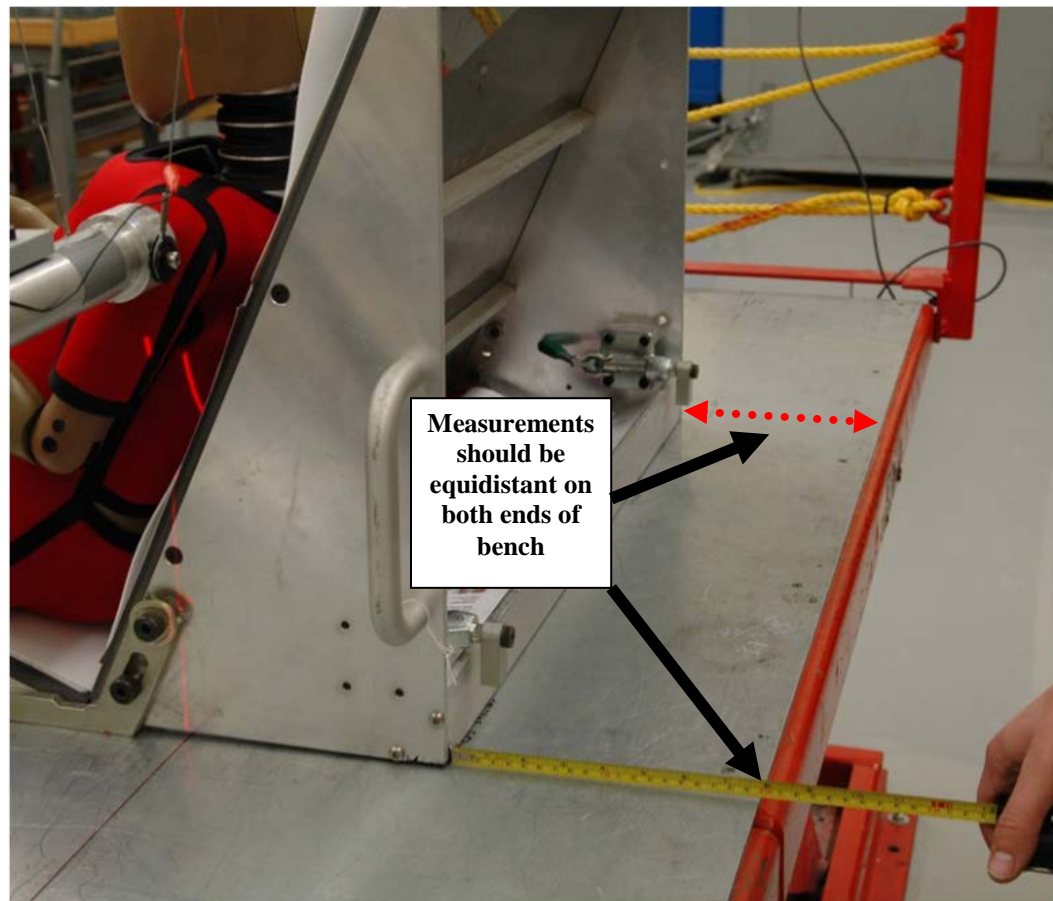

Figure 73. Checking that the bench is square
- Square the bench by measuring the distance of a reference edge along the back of the bench which is parallel to the line of impact, such as the edge of the table (Figure 73). Perform this measurement at both ends of the bench. Slightly adjust bench until it is parallel to the line of impact so that both measurements are equidistant (± 1 mm) to the reference, taking care to maintain the shoulder positioning at the probe.
- Recheck that the bench is square (Figure 73). Adjust as necessary.